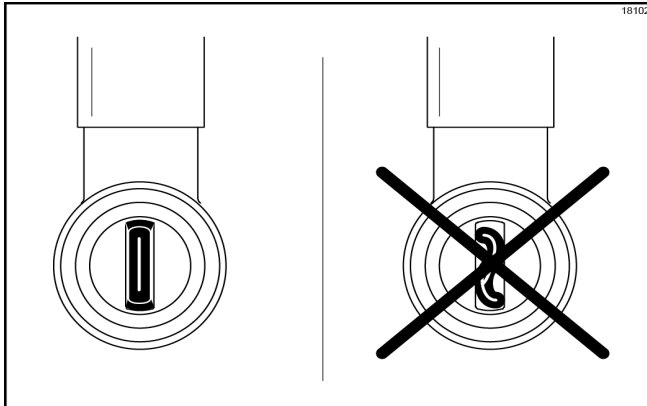

Figure-31
17. Inspect the duckbill valve for proper installation inside the syrup nose fitting. The tip of the duckbill valve **must be flat** to seal the syrup line. (See Figure-31.)